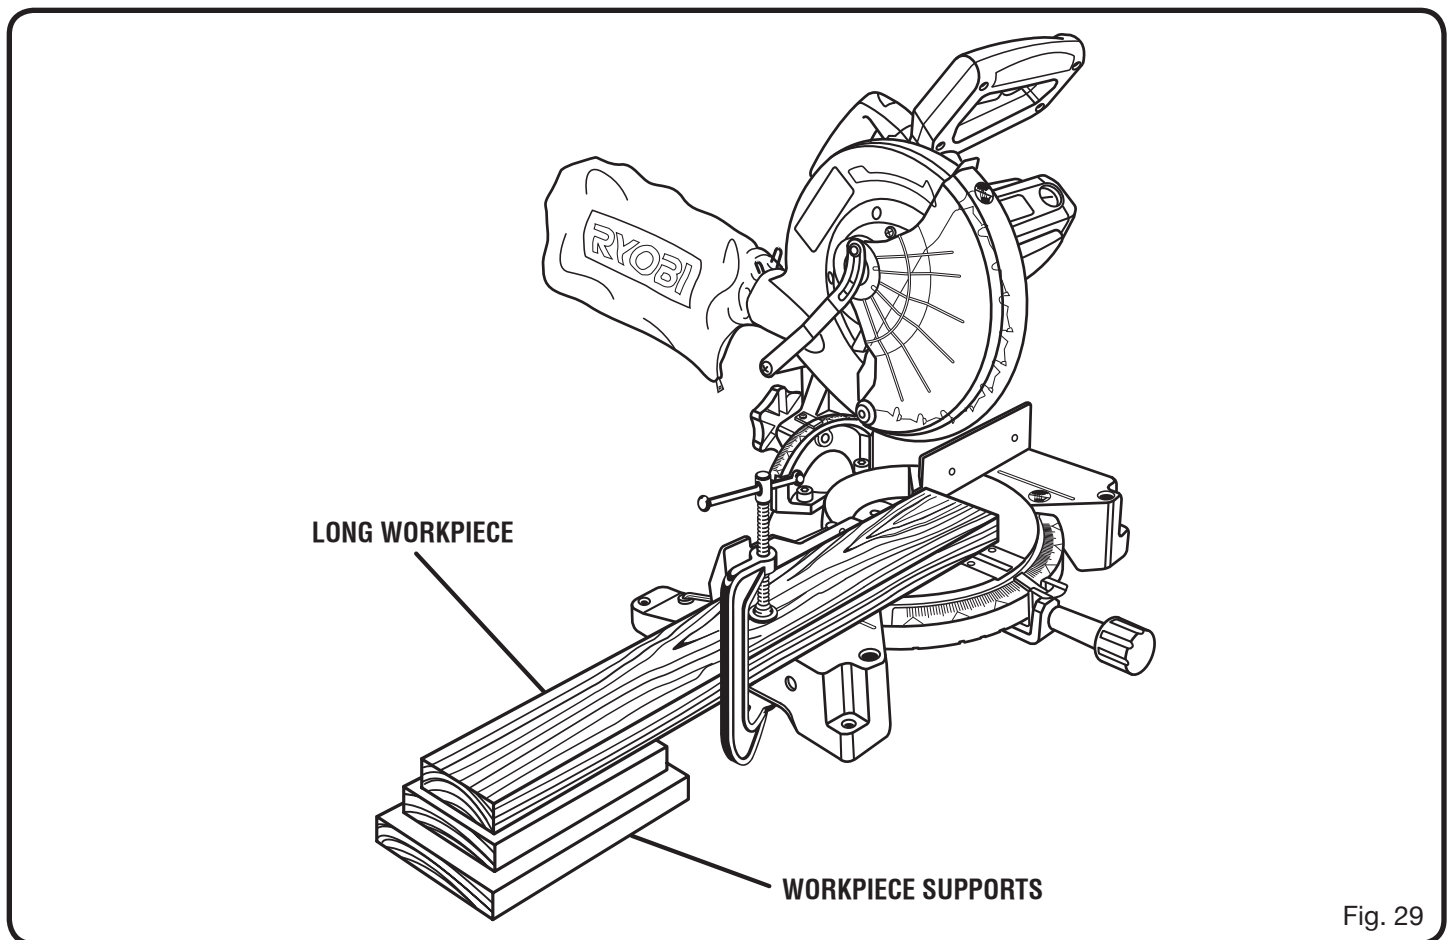

Fig. 29
- When cutting long pieces of lumber or molding, support the opposite end of the stock with a roller stand or with a work surface level with the saw table. *See Figure 29.*
See Figure 29.